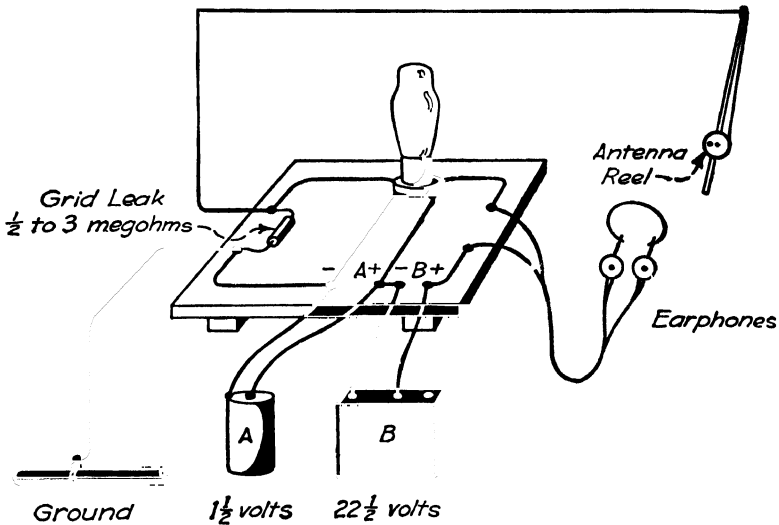

FIG. 150. The board layout for a simple receiver to use with the antenna reel.
Make the baseboard. The layout of the set board is shown in Fig. 150.
Wire the set as shown in Figs. 150 and 151.
Make the antenna and ground connections. Attach the free end of the antenna wire to the grid binding post on the set. Loop the wire over a support, so that the strain on the antenna will not pull the set out of the window. Connect the ground wire to the A-negative post (see Figs. 150 and 151).
Step 1. Connect a grid-leak resistor of $\frac{1}{2}$ to 3 megohms between the filament and grid, as shown in Fig. 150.
Step 2. Connect a pair of 2000-ohm earphones to the set board, as in Fig. 150.